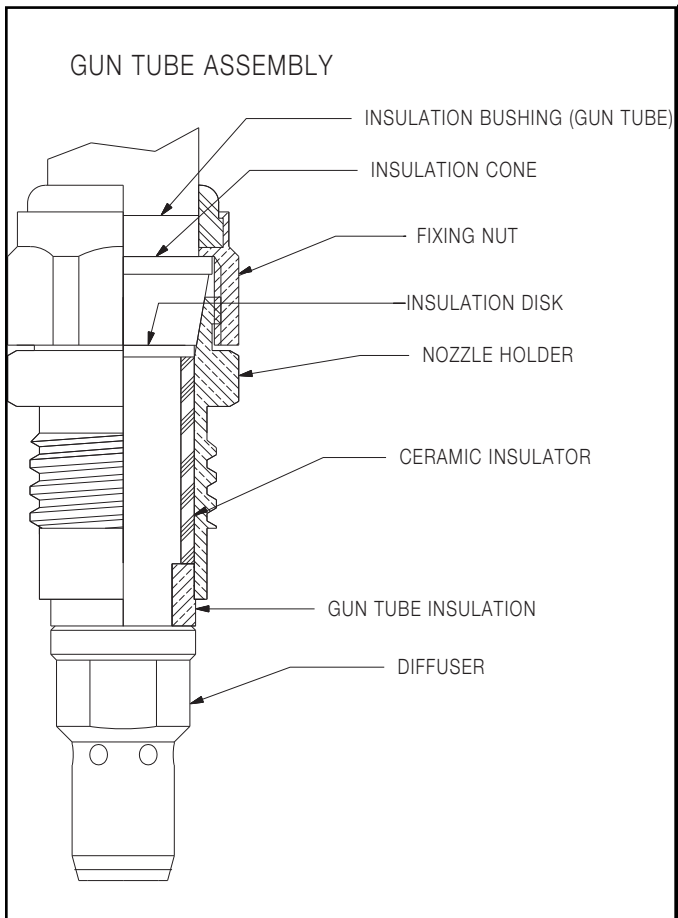

Figure E.1
- The neck insulation disk should be periodically examined for wear. To replace the neck insulation disk, remove the diffuser and pull off the neck insulation disk. Although the neck insulation disk does not have a thread, it can be unscrewed from the gun tube. Refer to Figure E.1.
- The nozzle holder can be replaced if the threads are damaged. Remove the diffuser and gun tube insulation (refer to a. and Figure E.1). Unscrew the fixing nut and pull the nozzle holder off the gun tube assembly. Be careful to not drop the ceramic that may come off with the nozzle holder. Examine the insulation cone and replace if damaged. Coat the inside diameter and the outside diameter of the ceramic with DOW CORNING 340 joint compound (Lincoln part T12837) and place them on the gun tube. Place the new nozzle holder over the ceramic and tighten in place with the fixing nut. Replace the gun tube insulation and the diffuser.